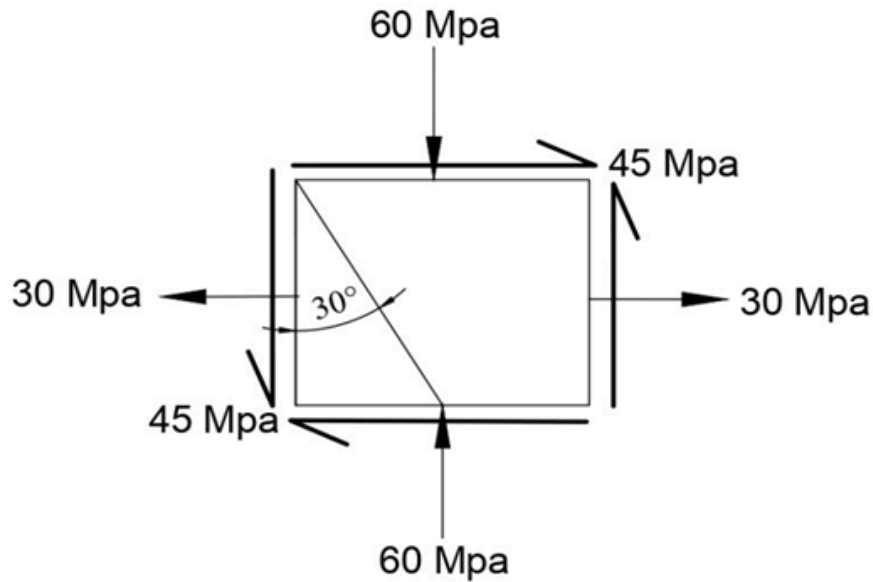

Figure 4.c
- 4b) Find the maximum torque that can be applied to a shaft of 60 mm diameter. Also determine the angle of twist in a length of 5 m and permissible shear stress is 60 MPa. Take $G = 80$ GPa. (8) CO4
- 4c) If an element is subjected to a state of stress as shown in figure 4.c. Find normal and shear stress on a plane at 30° anticlockwise. Also find maximum shear stress, resultant and obliquity. (8) CO4